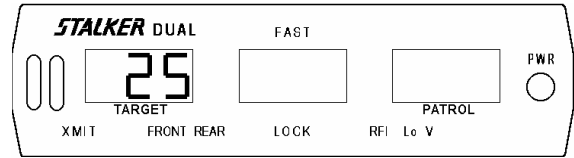

Fig 50
Two (2) tuning forks are supplied for **STALKER DUAL**. The tuning forks are calibrated for 25 mph and 40 mph (40 and 64 kph). To perform the tuning fork test, power the unit ON (press **PWR** switch), select stationary mode (press **MOV/STA** key), select the front antenna (press **ANT** key), and place the unit in transmit mode (press **XMIT** key). Strike the 25 mph tuning fork against a hard nonmetallic surface, such as the heel of a shoe. Quickly hold the tuning fork approximately two (2) inches in front of the antenna, with the narrow edge of the fork facing the antenna. The target window should indicate  $25 \pm 1$  mph (40 kph) (Fig 50). Repeat the above test with the 40 mph (64 kph) tuning fork. Select the rear antenna, if purchased, and repeat both tuning fork tests. *Note: We recommend that the tuning fork test be performed on each antenna. Some departments perform this test both before and after each citation. Check your department policy.*